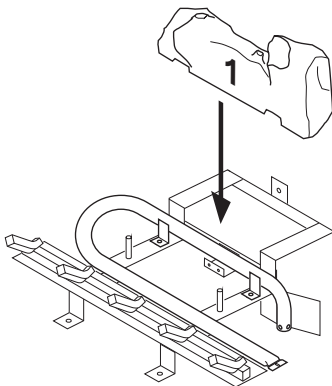

Figure 24 - Installing Log No. 1
2. Place log #1 (back log) on top of grate. Make sure notches in the bottom of log fit over the grate (see Figure 24).